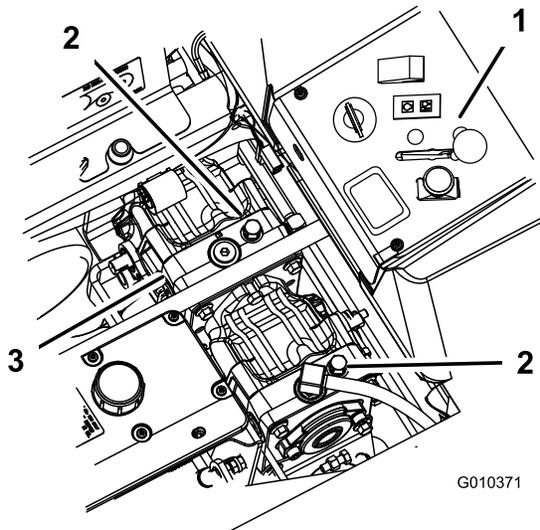

Figure 42
3. Rotate the bypass valves counterclockwise 1 turn to push (Figure 42).
Rotate the bypass valves clockwise 1 turn to operate machine (Figure 42).